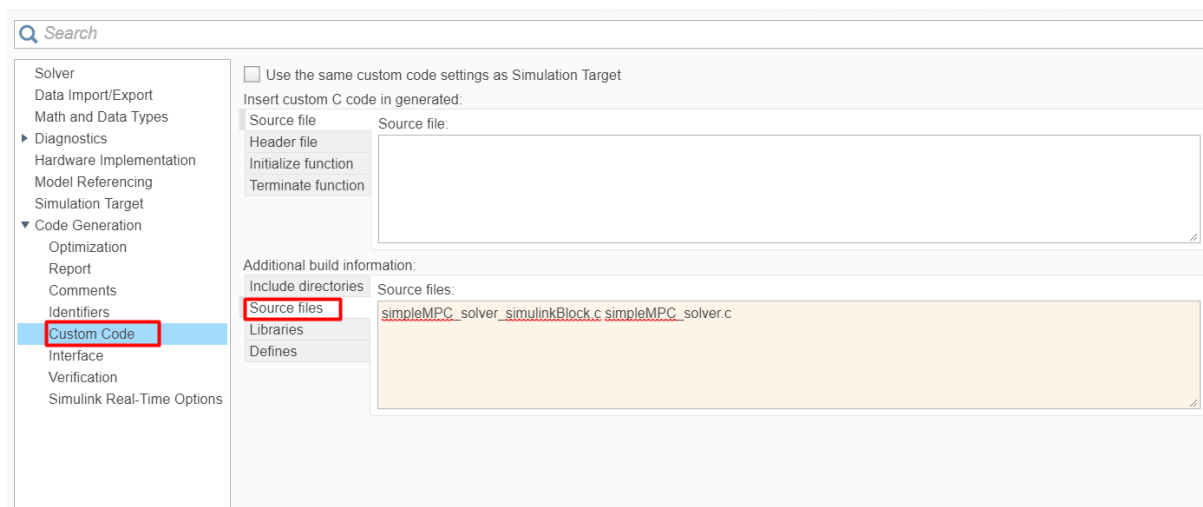

Figure 13.111: Add the source files used for the code generation.
10. (Figure 13.111) In the “Code Generation/Custom Code” tab, add the source files: